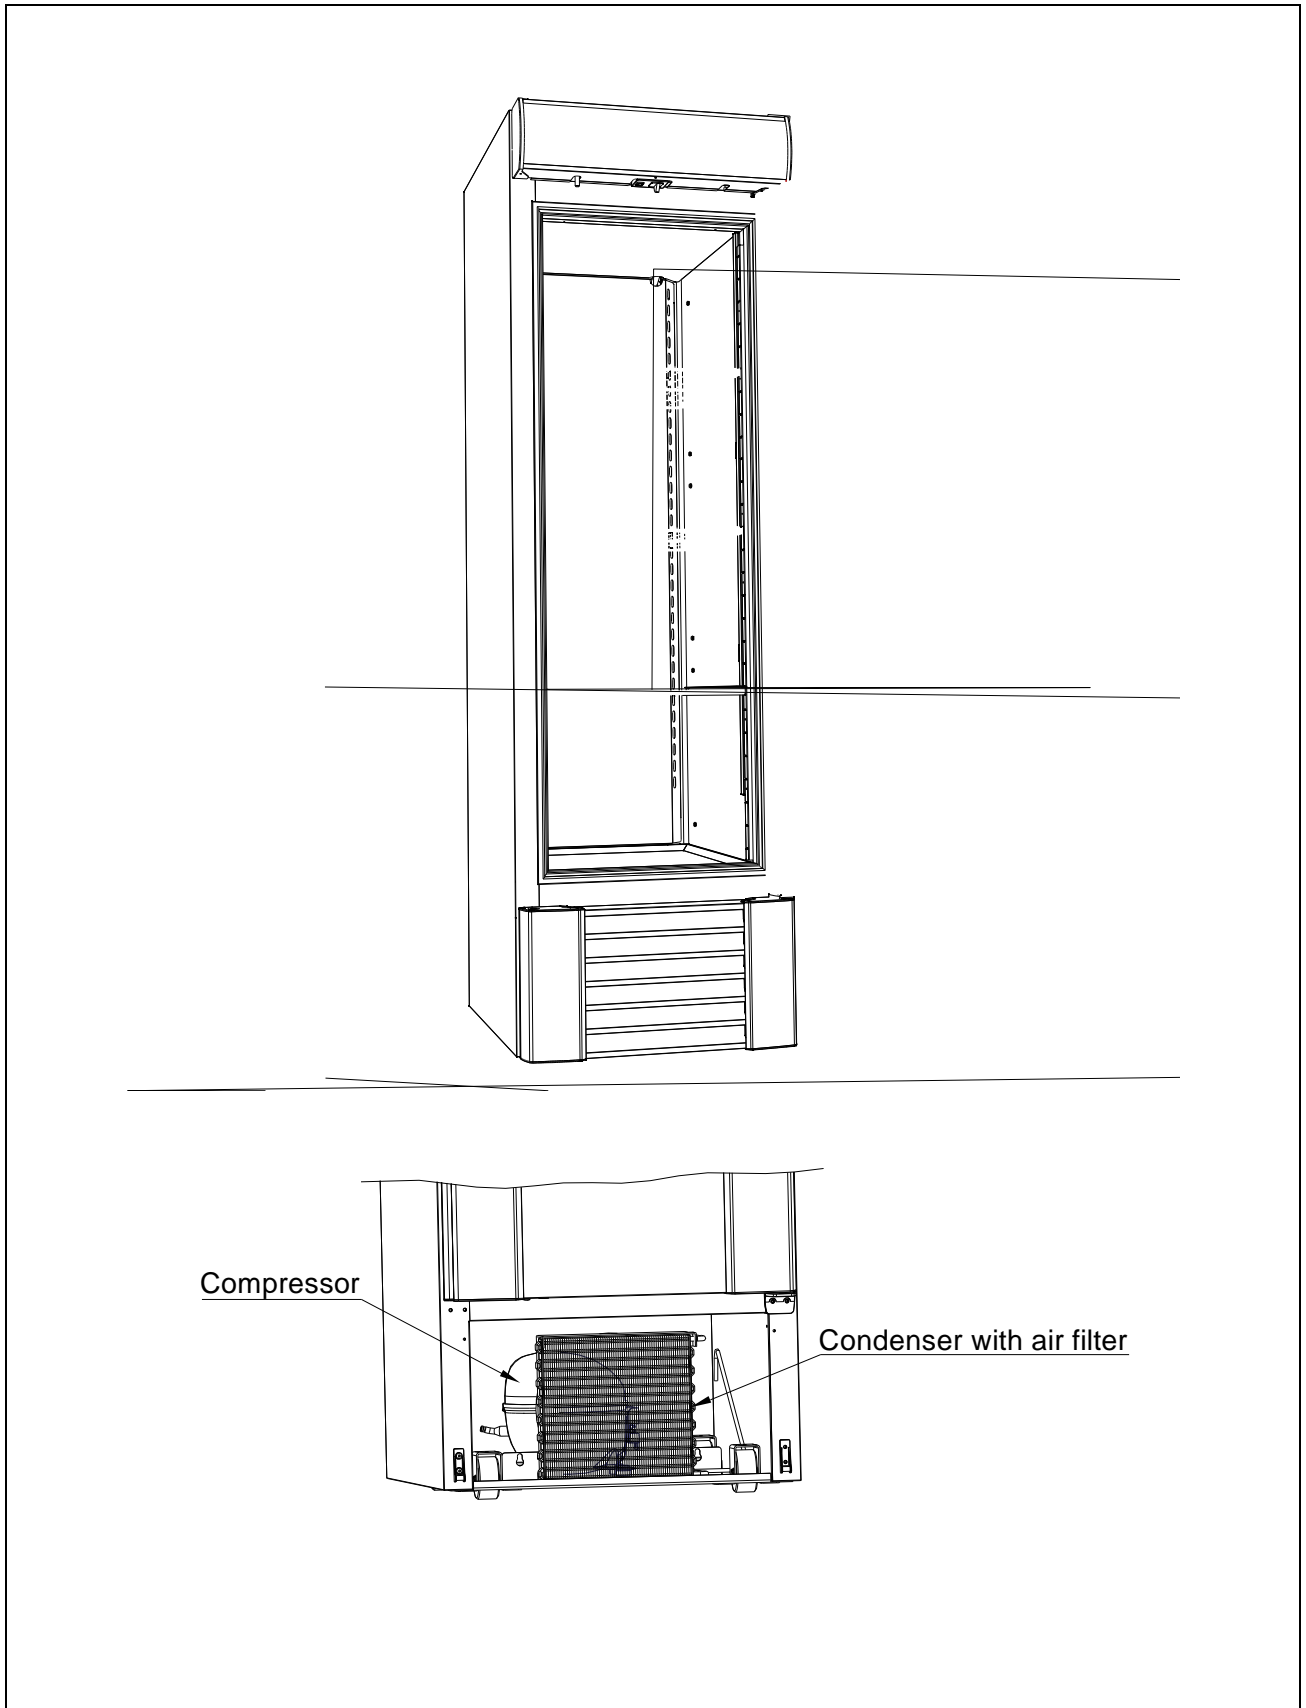

Fig. 3
- COH** Condenser overheated. This code is shown in the display if the condenser temperature has been too high. Clean the condenser filter in front of the condenser. (Refer to the placement of the filter in Fig. 3).
- Clean the condenser filter in front of the condenser. (Refer to the placement of the filter in Fig. 3). To reset this error, it is necessary to switch the product off and on again. The error is not reset automatically.
Control lamp for compressor operating time. When this control lamp is lit, it means that the compressor has been running for so many hours that it is time to clean the condenser's filter, which is located immediately in front of the condenser. (Refer to the placement of the filter in Fig. 3). When the filter has been cleaned and remounted, the counter that shows the interval must be reset.